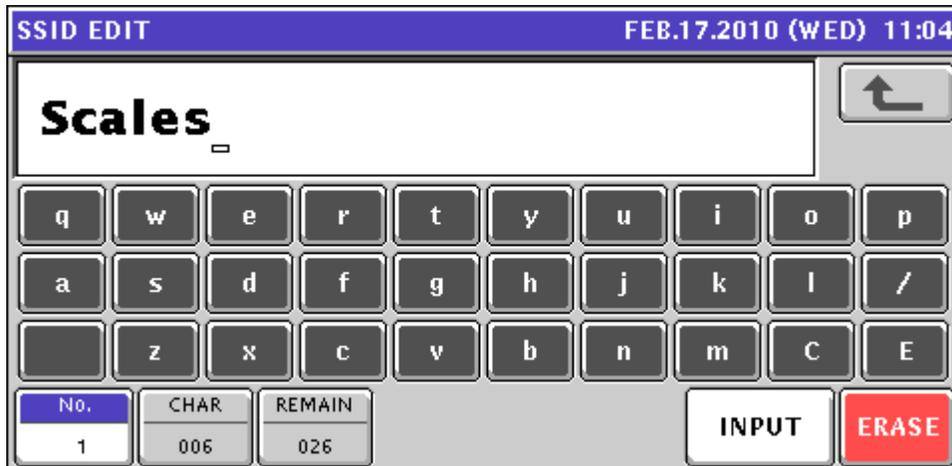

Figure 5.2. Enter the Wireless Network Name (ESSID)
7. Enter the Network Name assigned to the Access Point(s) or Wireless Router(s). See Figure 5.2.